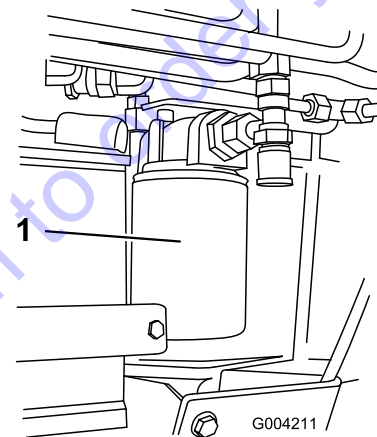

Figure 62
4. Place a drain pan under the filter (Figure 62).
5. Remove the old filter (Figure 62) and wipe the surface of the filter adapter gasket clean.
7. Install the replacement hydraulic filter onto the filter adapter (Figure 62). Tighten it clockwise until the rubber gasket contacts the filter adapter, then tighten the filter an additional 3/4 turn.